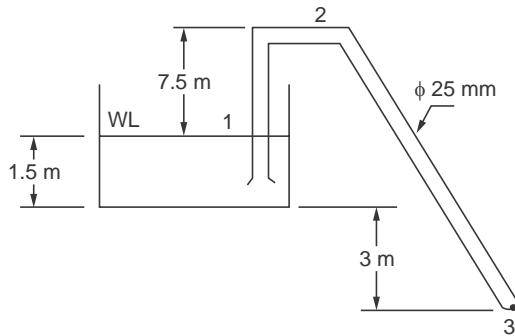

Figure E. 6.19
- E 6.19.** A siphon is used to draw water from a tank. The arrangement is shown in Fig. E. 6.19. Calculate the flow rate and pressure at point 2. The frictional loss equals $40 V^2/2g$. Atmospheric pressure is 10.2 m of water. **(43 l/min, 1.13 m of water)**